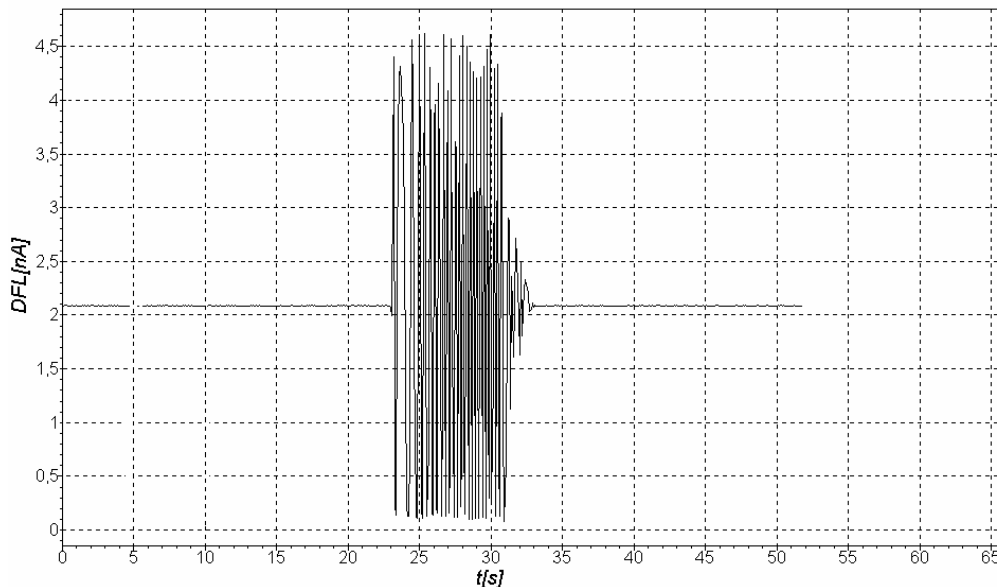

Fig. 3-13
- Determine the value of **FB Gain**, which triggers the process of generation. The start of this process is characterized by an abrupt increase of **DFL** signal variable component (Fig. 3-13).